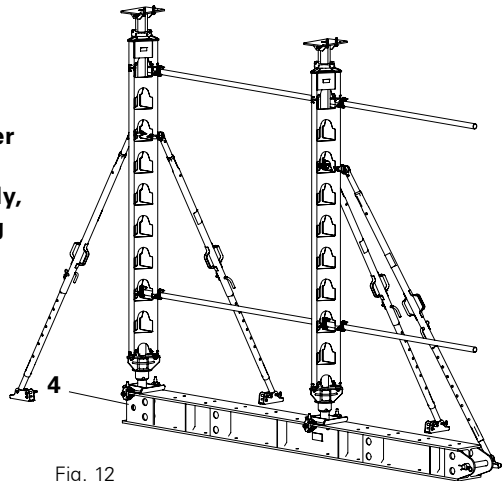

Fig. 12
- If assembly is carried out vertically, secure the system against tipping over! (Fig. 12)